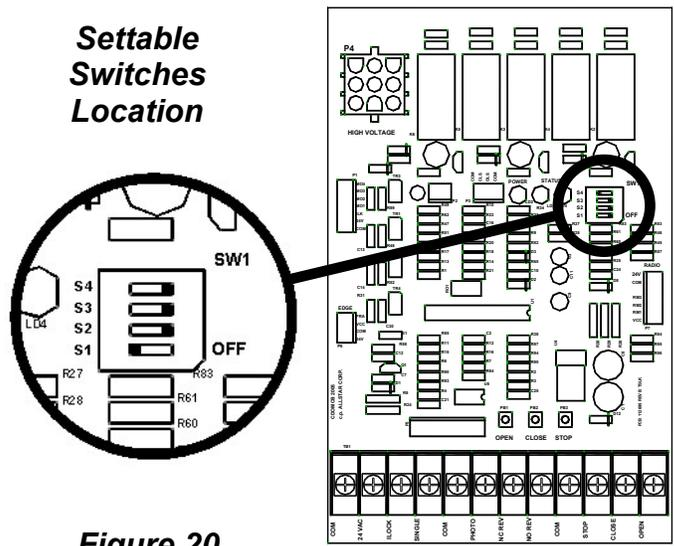

Figure 20
The following modes are selected by setting the on-board dip switches, Figure 20 at right shows where the switches are located on the operator control board. For each Operational Mode, the switches are set to either ON or OFF according to the table at right below. For all the modes, if an approved entrapment protection (EP) reversing device as described on page 3 of this manual is attached to the input labeled “Photo”, it will function as noted. Once an approved EP device is recognized by the control board it is monitored for correct operation. If the device becomes inactive then the mode will default to constant pressure activation for close regardless of the dip switch setting. In order for any of the Momentary Contact to Close operation modes (B2, TS, T) to become active an approved Entrapment Protection (EP) Reversing device (see Page 3) must be properly installed and connected to the operator. The switches must be set to *one* of the six Operational Mode combinations for the operator to function. In order for the NO (Normally Open) Reverse or NC (Normally Close) Reverse inputs to function, you must first install an operational approved Entrapment Protection (EP) Reversing Device.
Various operating characteristics can be modified via the setup modes. The operator is moved to the close limit position and the on-board dip switches (see Figure 20, page 14) are **TEMPORARILY** set according to the table at right to enter a Setup Mode. The on board OPEN and STOP buttons are used to modify the characteristic. Once set, the values are stored in non-volatile memory.